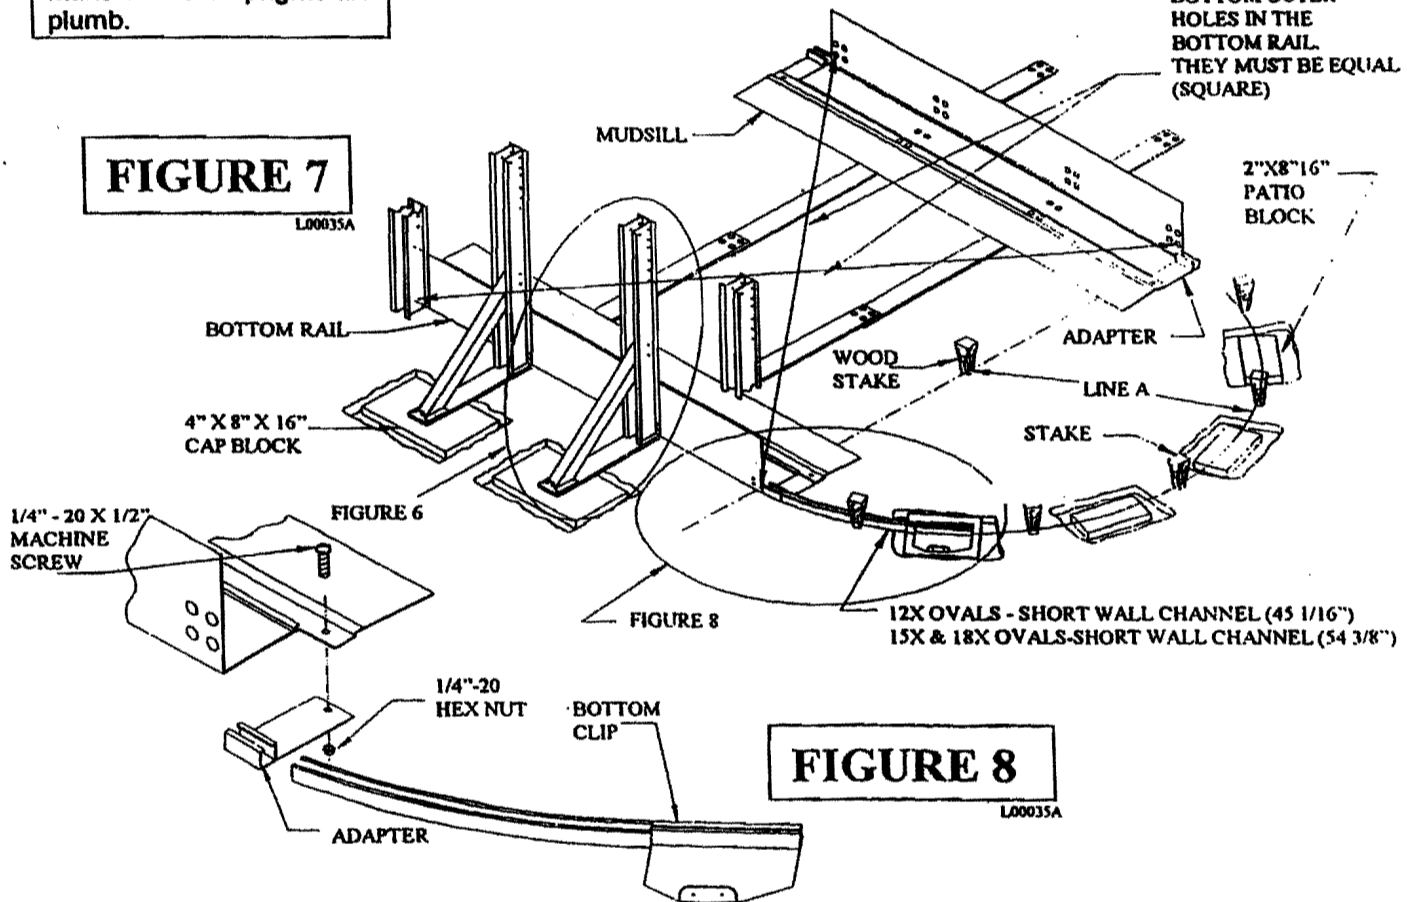

FIGURE 7
Step 6: See Figure 7. Square and level the bottom rails and the tie strap assembly. Tighten all fasteners in the assembly. Attach the adapter to the bottom rail as shown in Figure 8.